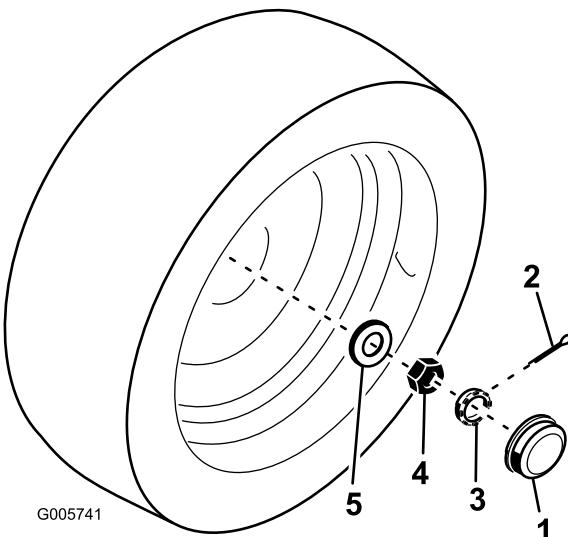

Figure 55
2. Remove dust cap from end of wheel spindle. Also remove cotter pin securing retainer (Figure 55).
3. Tighten the jam nut (Figure 55) to approximately 75–100 in-lbs using a hand wrench.